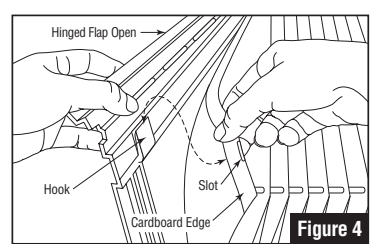

Figure 4
**Step 8:** Place one cardboard edge of new media over the hooks on the inner housing and through the slots in the cardboard (see Figure 4).